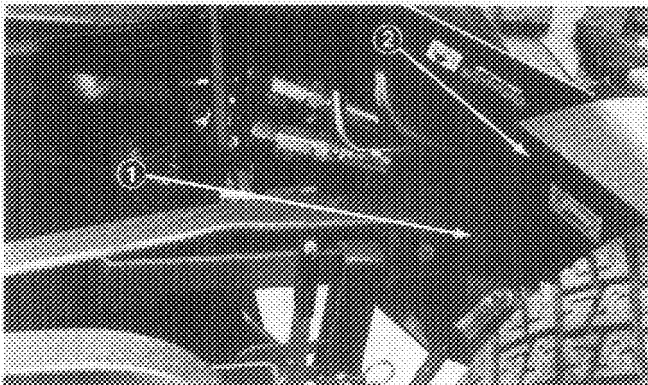

Figure 60
- Disconnect (3) hydraulic lines (quick couplers) and wire harness at rear of deck.
- Remove (2) capscrews and locknuts securing cutting unit carrier frames to traction unit lift arms (Fig. 60).